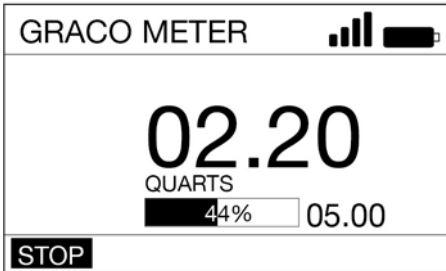

FIG. 34
3. Use the RIGHT or LEFT ARROW to select STOP (*J*) (FIG. 34). Press the ENTER button.